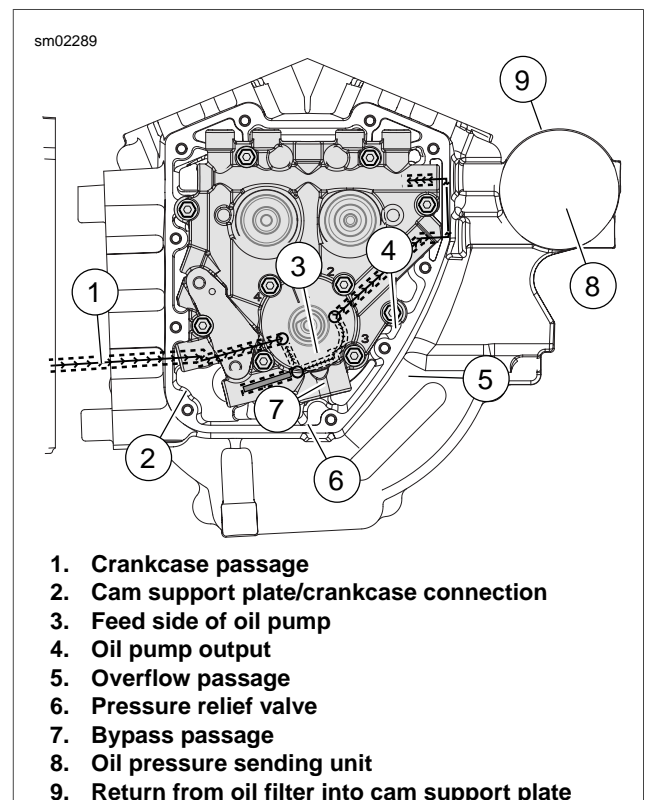

Figure 3-2. Cam Support Plate Oil Flow
See Figure 3-2. Running through a passageway in the crankcase (1), oil exits a hole in the crankcase flange and enters a hole on the inboard side of the cam support plate (2). Passing through a channel in the cam support plate, the oil enters the feed side of the oil pump (3). See 3.4 OIL PUMP OPERATION. The feed gerotors of the pump direct the flow up a second channel in the cam support plate.
See Figure 3-2. After circulating through the oil filter, the flow of oil is directed back into the crankcase through the upper hole in the oil filter mount. Exiting a passageway in the crankcase through a hole in the crankcase flange, the flow of oil reenters the cam support plate (9).